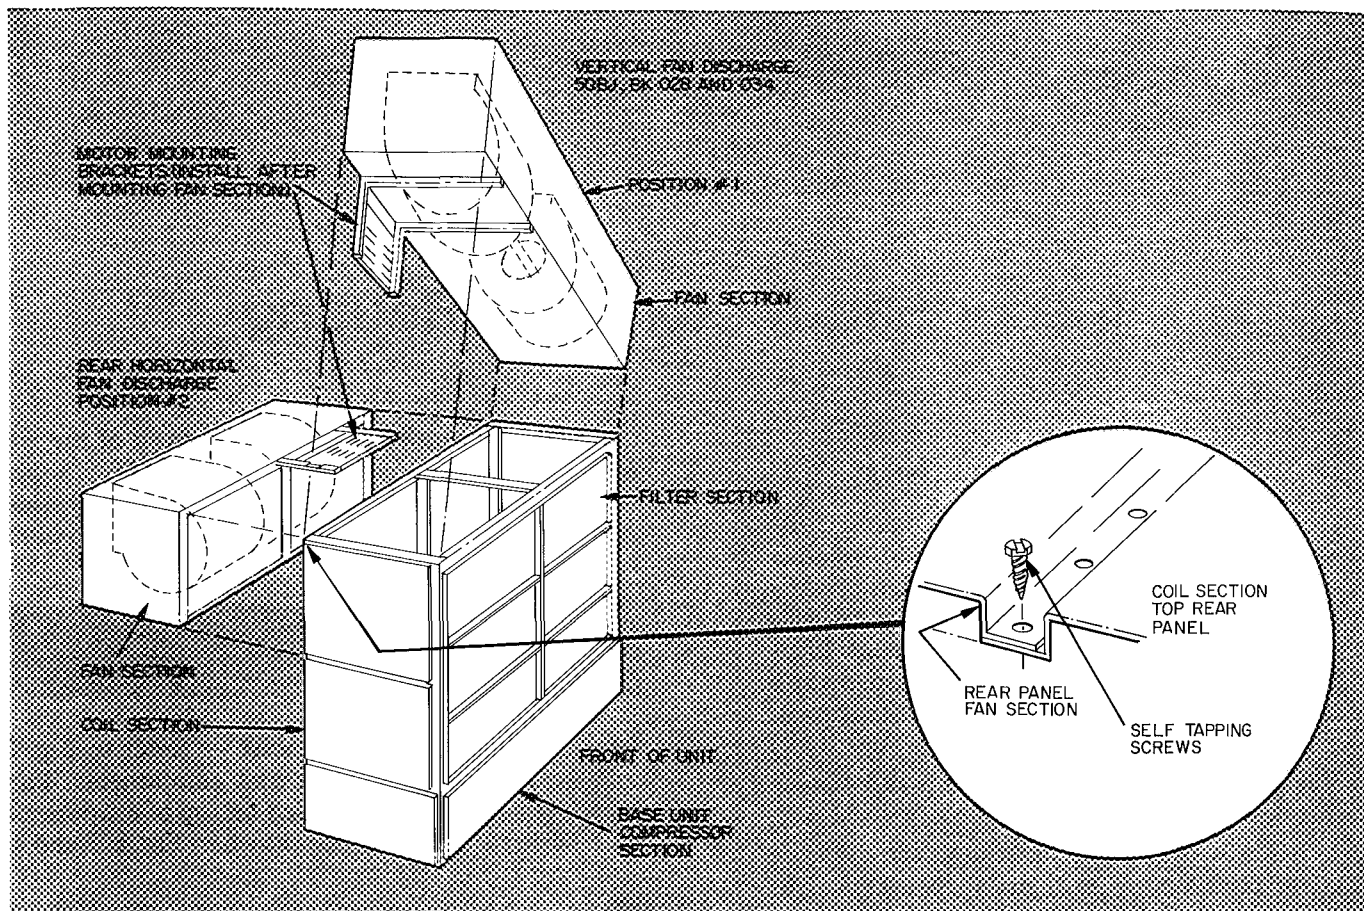
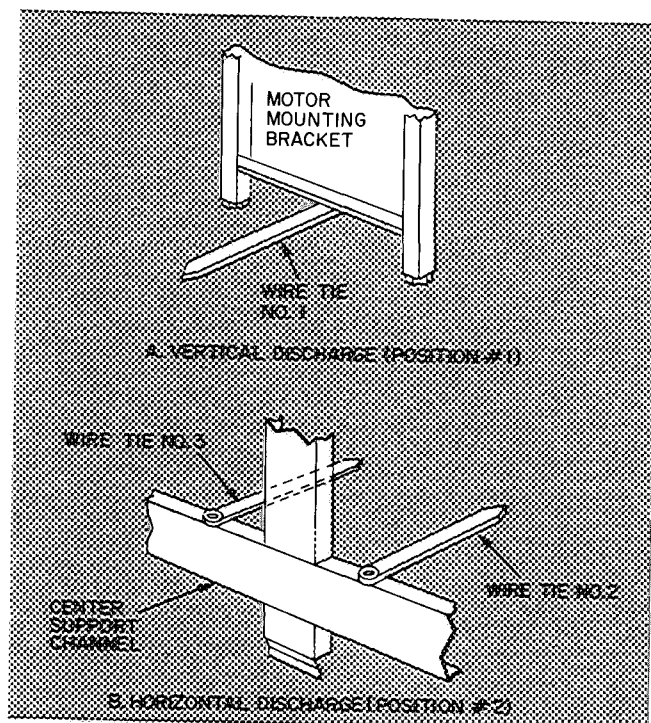
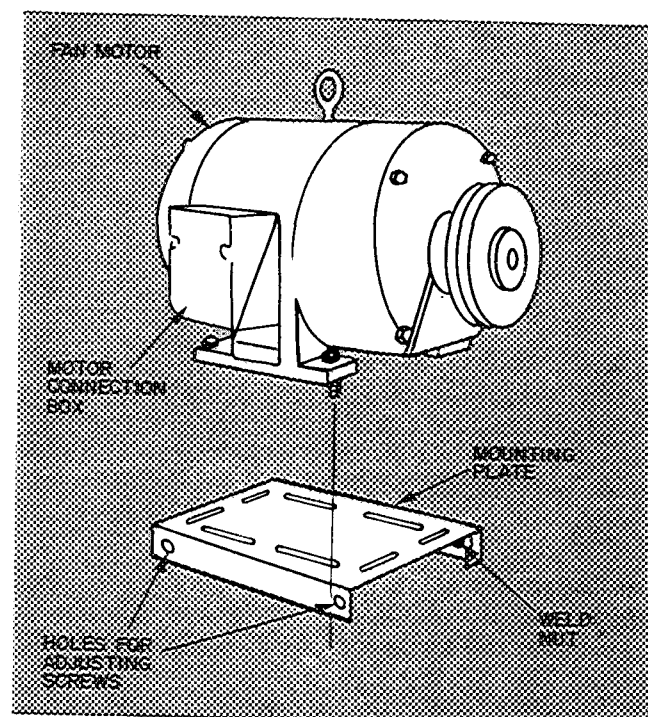

Fig. 1 — Fan Mounting (028,034 Units)
Fig. 4 — Wire Tie Locations
Fig. 5 — Motor Mounting Details
→ **General** — Base section, fan section, fan motor and fan drive are shipped separate on 50BJ,BK028 and 034 units. The fan section can be positioned for horizontal or vertical discharge as shown in Fig. 1. (Refer to base unit installation instructions for details.) The fan motor is field installed to the fan section motor mounting bracket and plate and must be field wired.
**VERTICAL DISCHARGE** (Fig. 1, Position #1) — Run wiring thru wire tie #1 (Fig. 4) on motor mounting bracket to the fan motor and secure. Route wiring from wire tie around motor side of mounting bracket to fan motor connection box on top of motor (Fig. 5). Cut off and discard excess wire. Refer to base unit label diagram for wiring connection details.
**HORIZONTAL DISCHARGE** (Fig. 1, Position #2) — Run wiring thru wire ties #2 and 3 (Fig. 4) to the fan motor and secure. Run wiring to connection box at back of motor (Fig. 5). Cut off and discard excess wire. Refer to unit label diagram for wiring connection details.